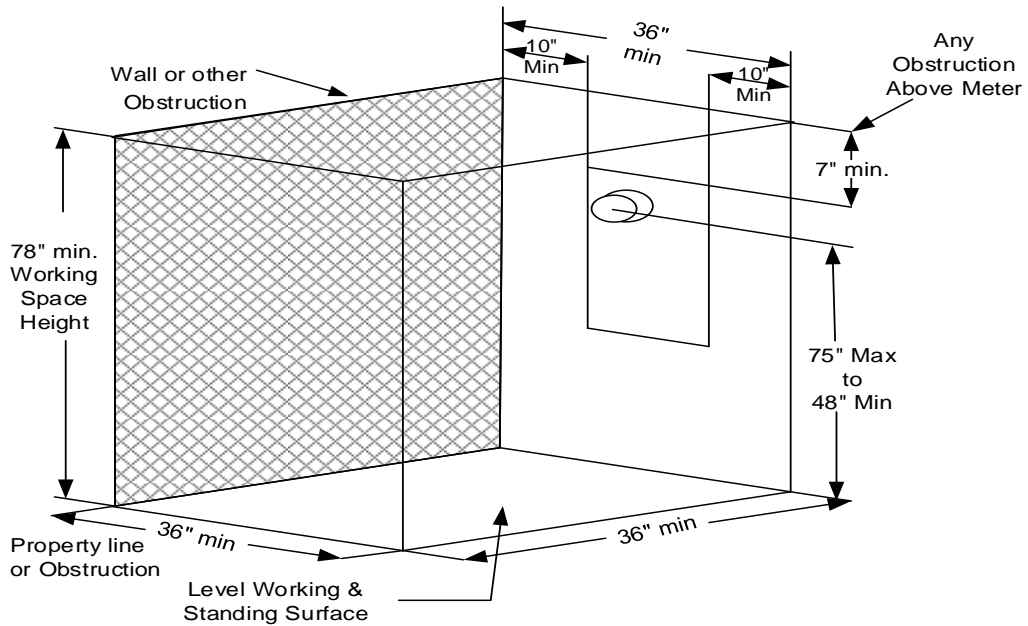

Figure 5. Safe Work Space and Clearances Around the Meter
- 6.2 A 3' x 3' area directly in front of the meter must be provided as the minimum amount of work space necessary for safe operation and maintenance of the meter and service equipment. See Figure 5, Safe Work Space and Clearances Around the Meter.
- 7.2 The entire safe work space must be in-sight-from the street or public alley. See Figure 5 and 6 for proper clearance around the meter.
- 8.2 The entire safe work space must be in-sight-from the street or public alley. See Figure 5 and 6 for proper clearance around the meter.